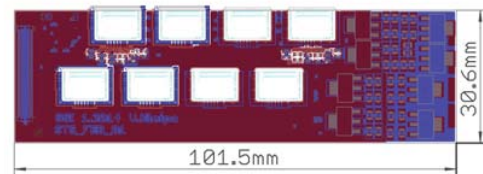

Figure 1: STS FEB8 test layout.
The front-end board designed to test the assembly procedure and the functionality of the pairs of ASICs and tab-bonded micro cables is shown in Figures 1 to 3:
- Figure 1 depicts the FEB layout for the assembly test.